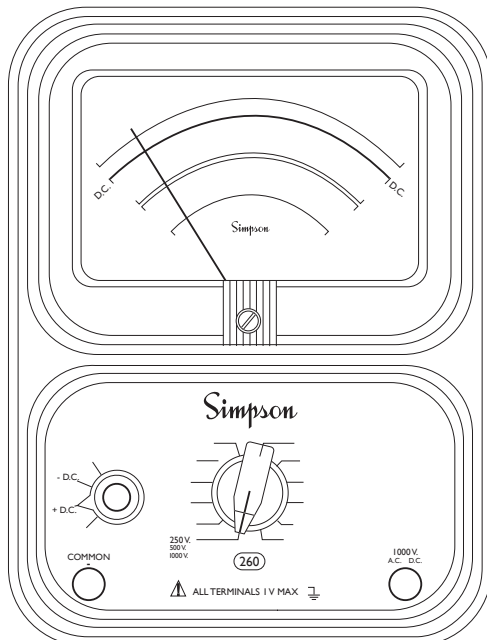

Figure 4-3. Jacks and Switch Positions for Measuring DC Voltages 0-500V Range
- Set the function switch at +DC (Figure 4-3).